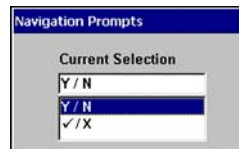

Figure 5-24 Sample Navigation Prompts dialog box
2. The Navigation Prompts dialog box displays (Figure 5-24).